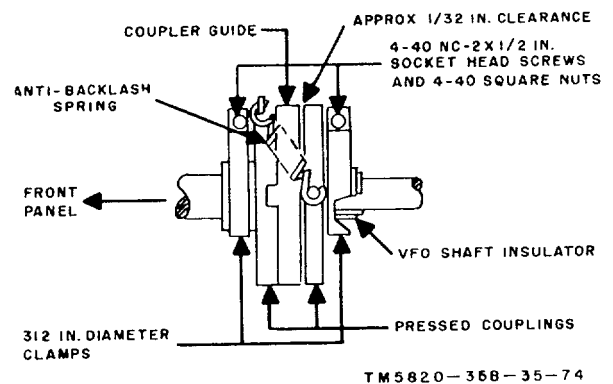

Figure 70. Oldham coupler details.
- (1) Preset the receiver (para 36). Turn the FUNCTION switch to MGC. Allow 15 minutes for warmup.
- (2) Tune the receiver to station WWV or a local station of known frequency. Be sure to set the frequency indicator exactly to the station's assigned frequency.
- (3) Turn the BANDWIDTH switch to .1.
- (4) Remove the antibacklash spring on the Oldham coupler (fig. 70) and loosen the vfo (fig. 37) shaft clamp nearest the front panel.
- (5) Turn the shaft until the station is tuned for maximum loudness.
- (6) Tighten the shaft coupler and replace the antibacklash spring.
- (7) With the first two digits of the frequency indicator set at- any position except 00, check the receiver calibration at the low, middle, and high frequency end of the band.